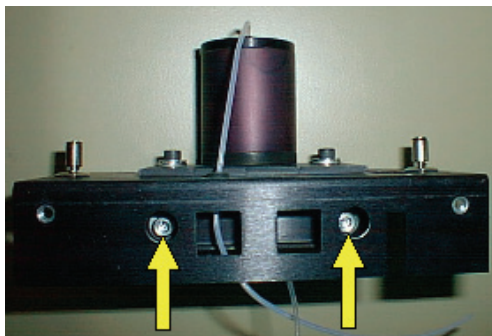

Figure 30 Adjustment screws
7. During data collection, adjust the two (1/8") Hex screws shown in Figure 30 until the maximum signal is observed.